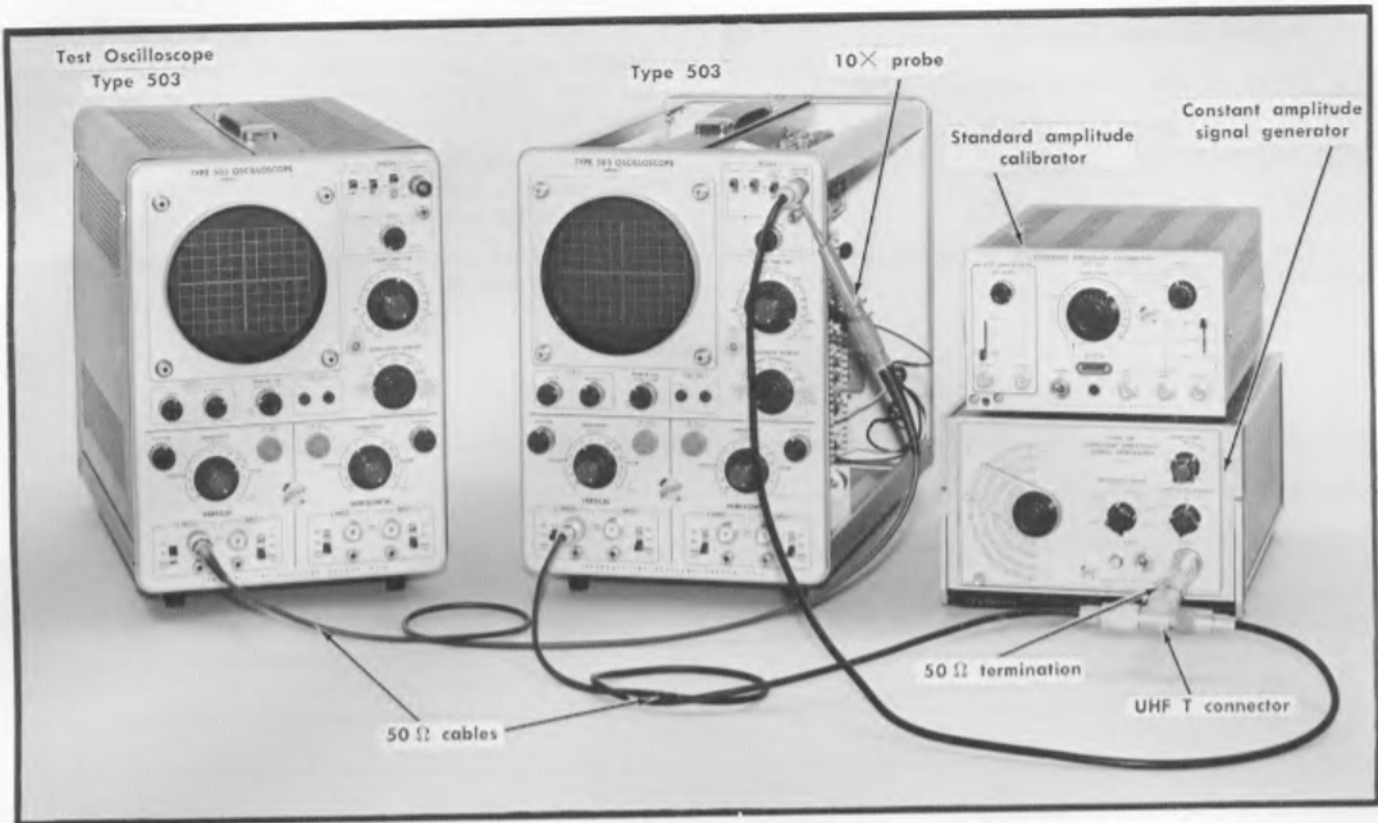

Fig. 6-28. Initial test setup for checking sweep triggering.
- The initial test setup is shown in Fig. 6-28.